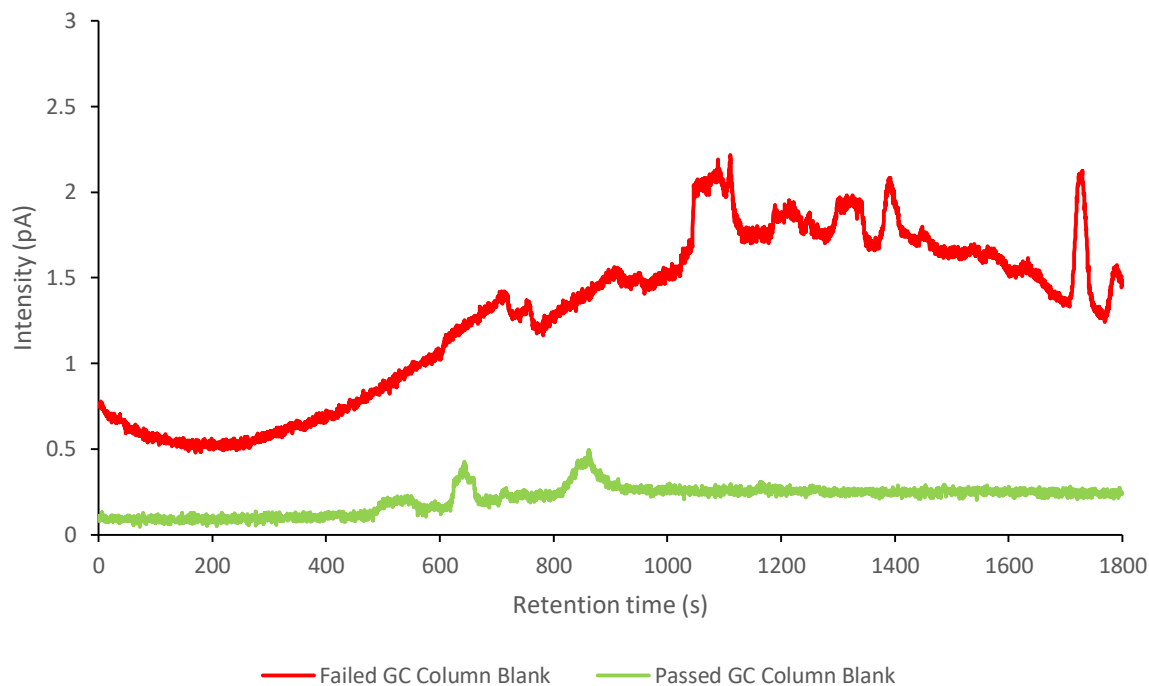

Figure 5. Example of a passed and failed GC column blank.
- 4.3.2 Demonstrate the GC column is blank – all background peaks should be $<2\text{pA}$ with no upwards baseline drift (Figure 5).